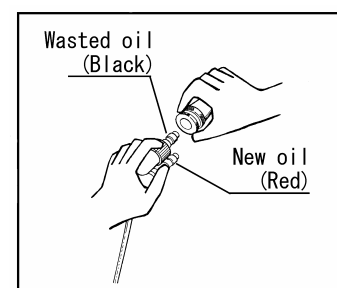

Fig.2-3
-  When you connect the nozzle and the hose, do not mistake the hose for new oil (red) for that for the wasted oil (black) or vice versa. If you do not connect them correctly, a foreign substance such as dust gets mixed in with the machine, and it may cause the machine to malfunction. (See Fig. 2-3.)